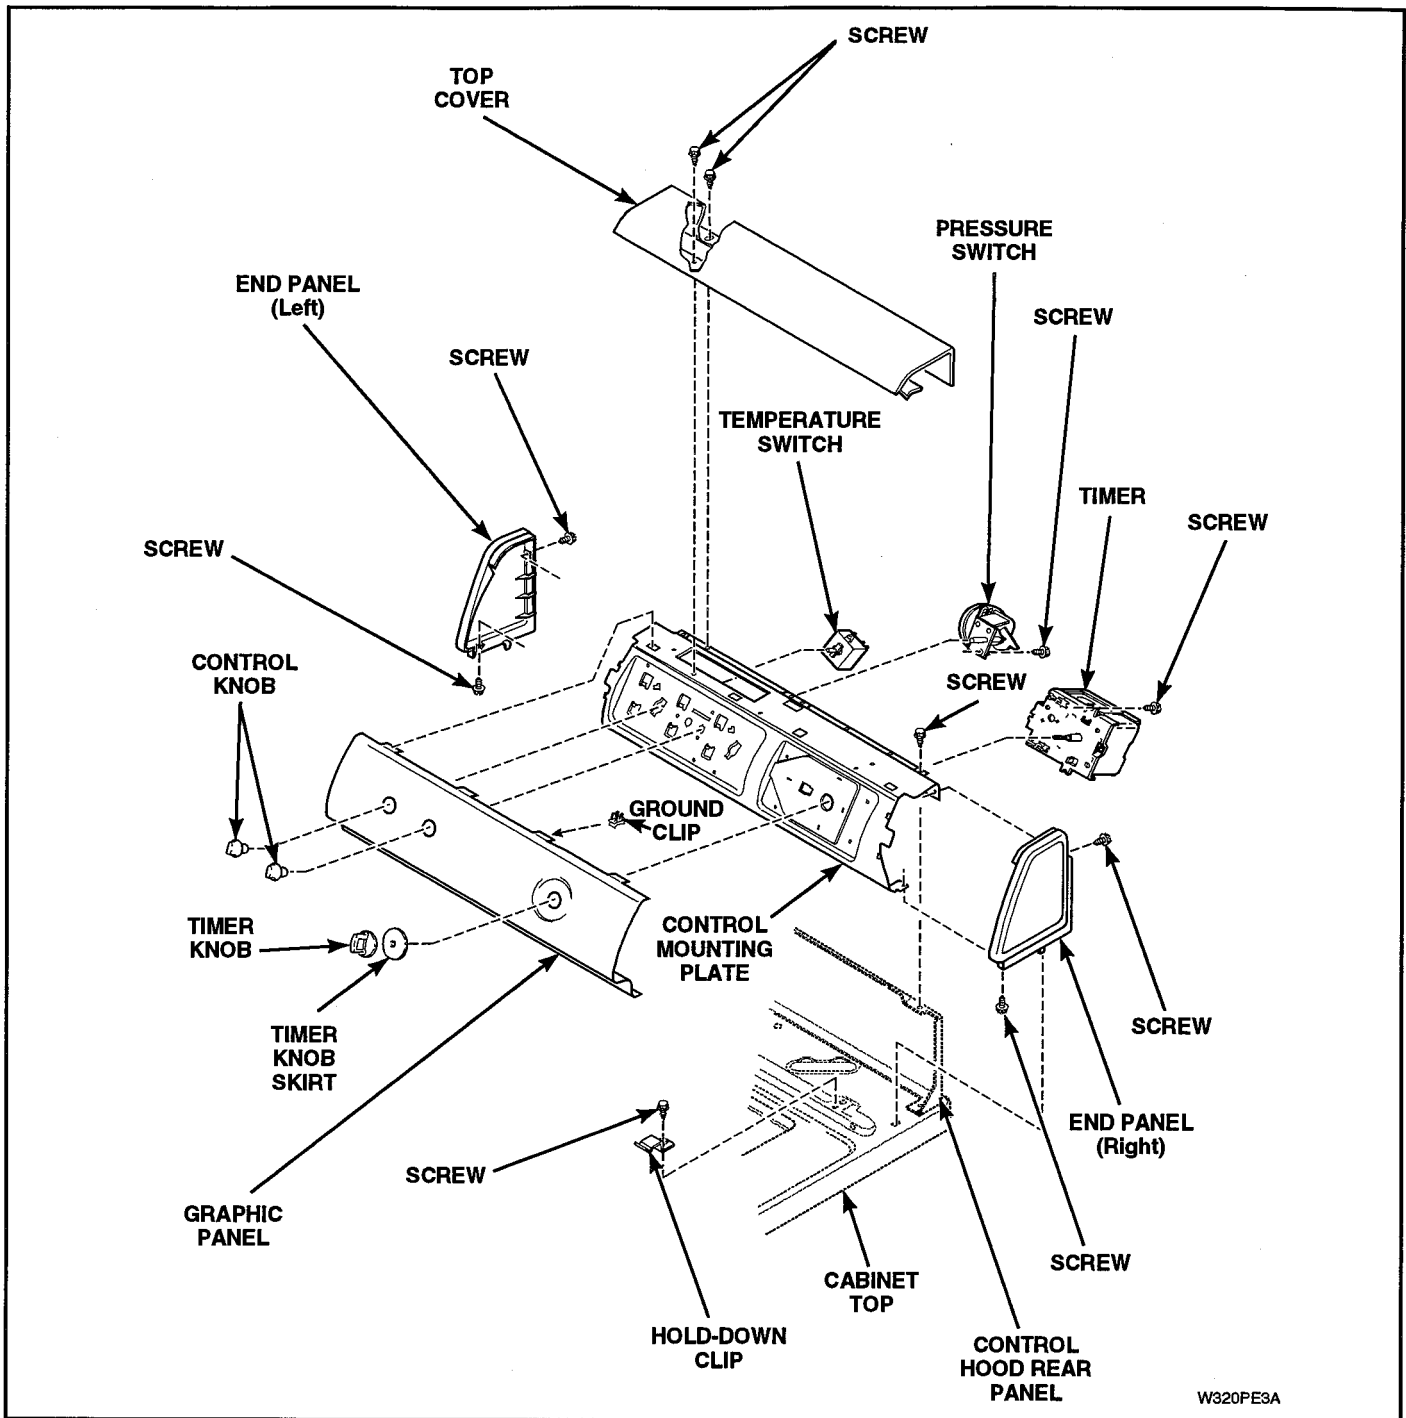

Figure 5-2
3. TIMER (Refer to Figures 5-2 through 5-5)
- Refer to Figures 5-2 through 5-5 for switch removal.
- Refer to Figures 5-2 through 5-6 for switch removal.
(Refer to Figures 5-2 through 5-6)